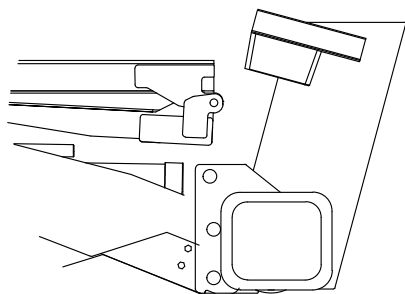

Figure 10: Platform Folded and Level.
4. **RAISE** the platform to a horizontal position (Figure 10).